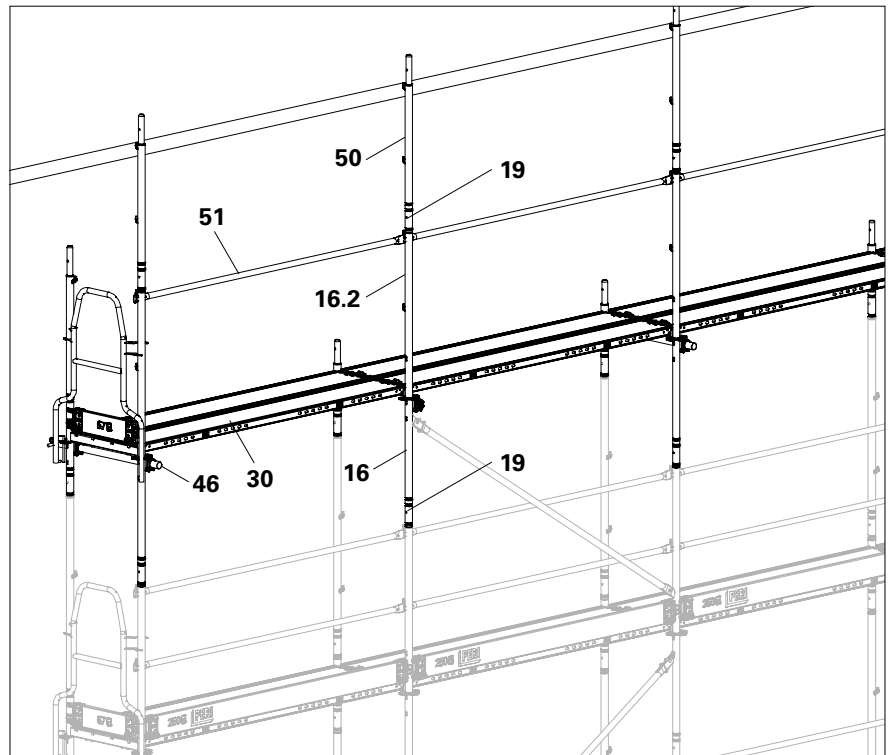

Fig. D2.01
1. Assemble top scaffold level with Easy Frame EVF (16) and Guardrail in Advance EPG (51). Insert Steel Decks EDS (30).
2. Attach the Guardrail Post EVP (50) to the outer tube (16.2).
3. Securely connect the guardrail post (50) and outer tube (67) using a locking pin (19). (Fig. D2.01)
- In the protection panel positions, anchor every second frame column with Wall Ties UWT (46) to the inner and outer legs; alternatively, anchor with triangulated ties to the inner leg.